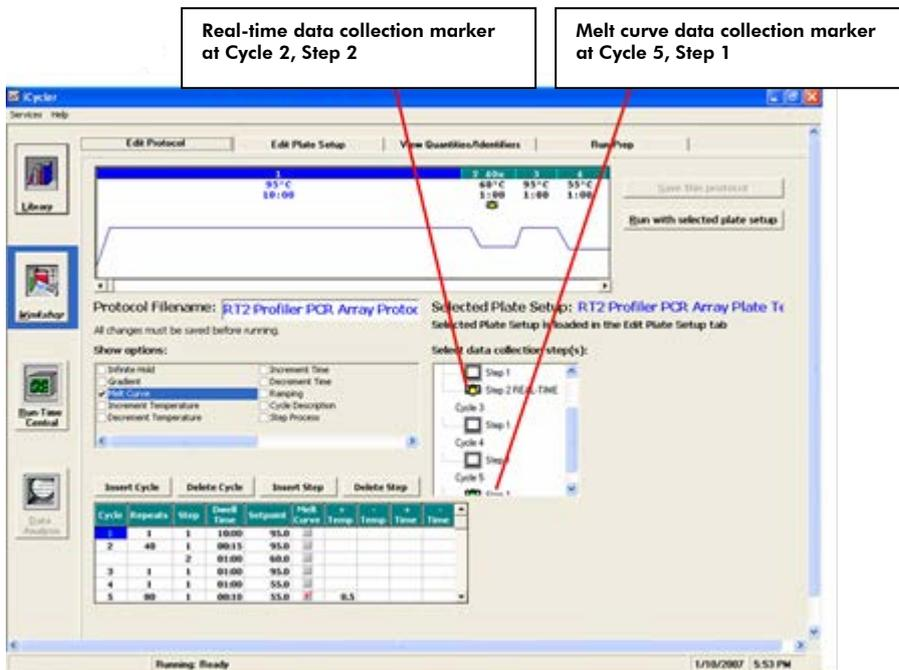

Figure 1. Protocol setup.
2. Click on the “Library” module on the left panel. Select the “View Protocol” tab. Under “Protocol Files,” select “2StepAmp+Melt.tmo.” Click “Edit This Protocol” on the right; this will open the “Edit Protocol” tab in the “Workshop” module. Edit the thermal profile in the table at the bottom of the screen as follows (See Fig 1):